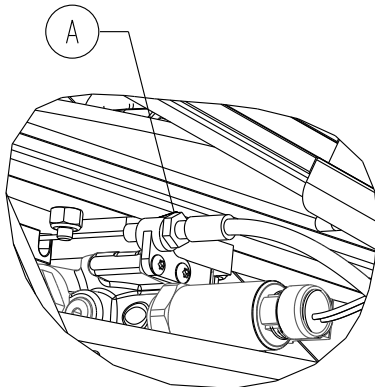

Figure 21 –
6. Using a 10 mm combination wrench, loosen the manual release cable lock nut (A) (Figure 21).